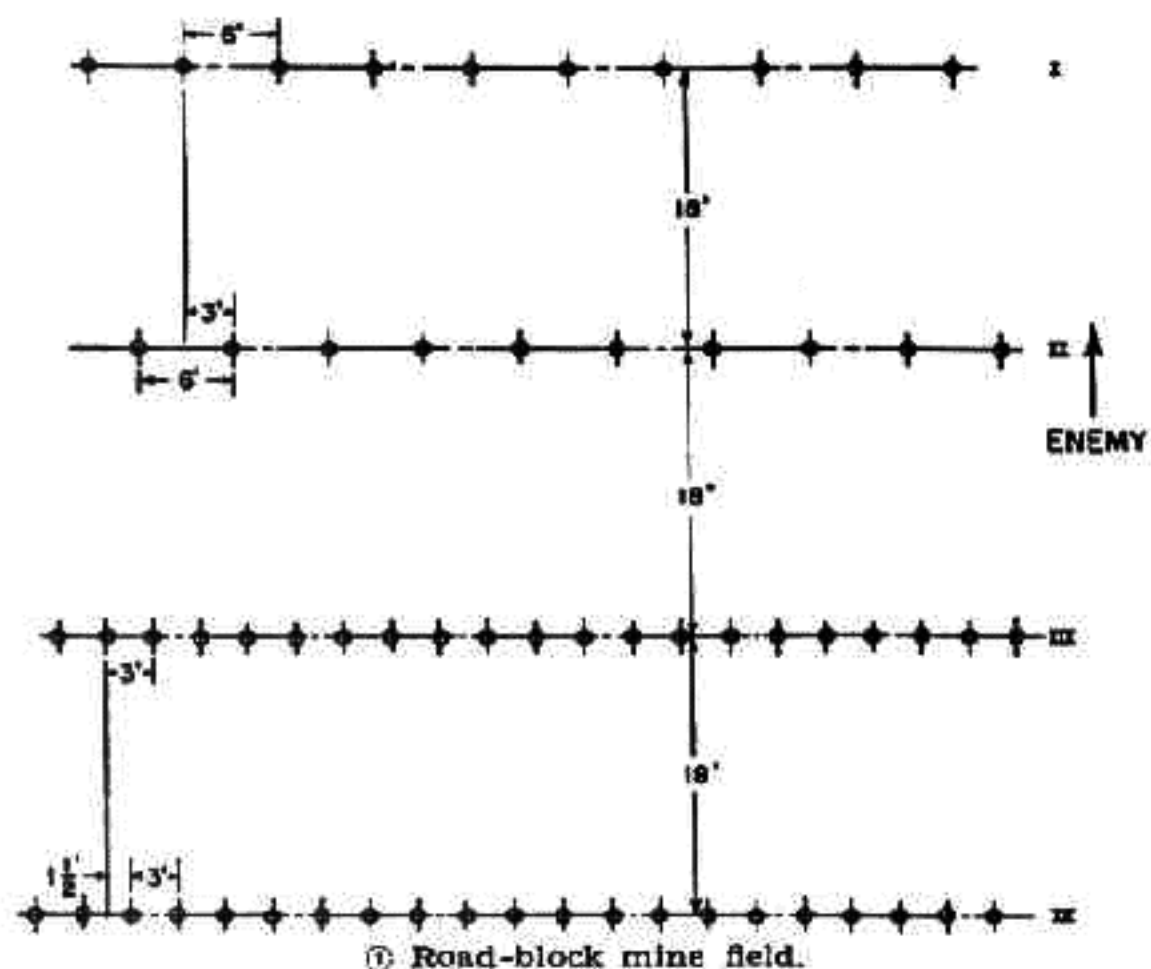

FIGURE 108.—Mine-field patterns.
■ 61. OBSTACLES.—*a. Mine fields.*—Mine fields are laid in definite patterns, two of which are shown in figure 108. Patterns are designed to do two things: